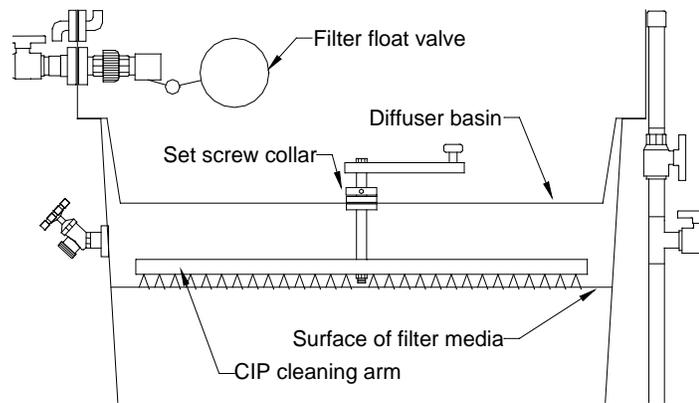

Figure 5-1
Step 2. Place the diffuser basin into the filter. Adjust the height of the CIP cleaning arm, using the set screw collar, so it rests on the surface of the filter media. Attach the filter float valve (figure 5-1).